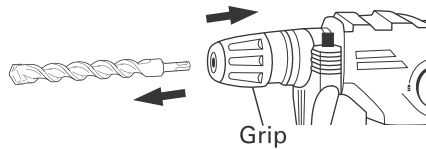

Fig. 3
4. To remove the drill bit, fully pull the grip in the direction of the arrow and pull out the drill bit. (Fig. 3)